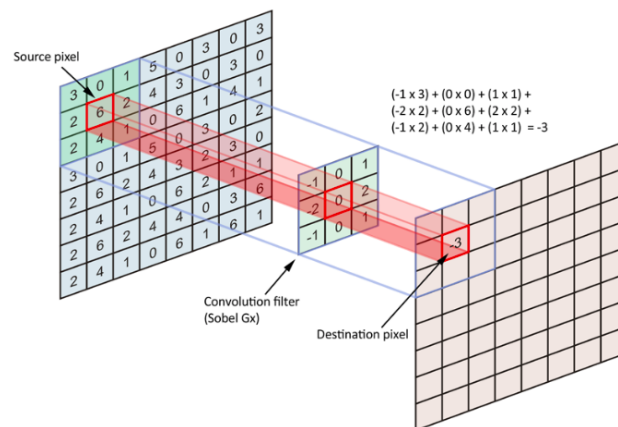
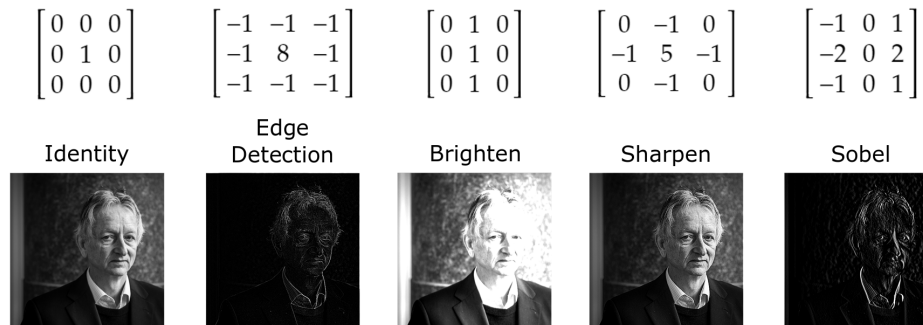

Figure 1: Example for two-dimensional convolution operation.
Figure 2: The results of convolving an image with different filters.
This concept can be extended to multi-dimensional signals as well. For example, in image (i.e. two dimensional signal) processing, convolution between an image and a two dimensional $N \times N$ filter is typically used to modify the spatial frequency characteristics of an image, achieving different filtering effects such as blur, sharpening, or edge detection. The value of a specific pixel in the output image is calculated as the weighted sum of all its neighbors in the $N \times N$ local region centered at this pixel as shown in Eq. (2). Fig. 1 illustrates how a two dimensional convolution operation is performed by striding the convolution filter across the input image to calculate all the pixels of the output image. The edge pixels are handled by padding the image with zero pixels in all four directions such that the input and output images of the convolution operation have the same size. Convolution is probably the most commonly used operation in image processing applications, and they are also one of the main building blocks in deep learning models like convolutional neural networks (CNNs) used in vision applications such as image classification and object detection. However, CNNs use a more complicated version of convolution in which the input, filters and output are all three dimensional tensors instead of two dimensional matrices explored in this lab. If you are interested, you can know more about CNNs from this interesting tutorial. Fig. 2 shows the effect of convolving an input image¹ with different filters.
You can also notice from Fig. 2 that many of the commonly used convolution filters are symmetric in the x-dimension, y-dimension, or both. This means that one can often implement them more efficiently by leveraging the symmetry (i.e. the fact that pairs of coefficients are the same). In this assignment, we will use 3×3 convolution filters that are symmetric in the x-direction (i.e. $b[0][0] = b[0][2]$, $b[1][0] = b[1][2]$, and $b[2][0] = b[2][2]$); you can leverage the fact that the filter is x-symmetric to make your hardware more efficient if you wish.